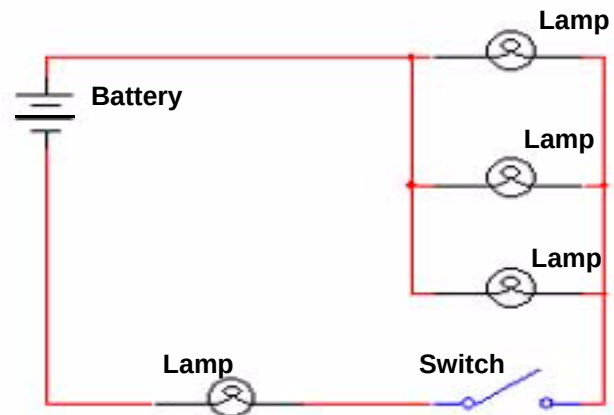

Figure 7.20
- Series/parallel circuits have some sections wired in series and some in parallel. See Figure 7.20.